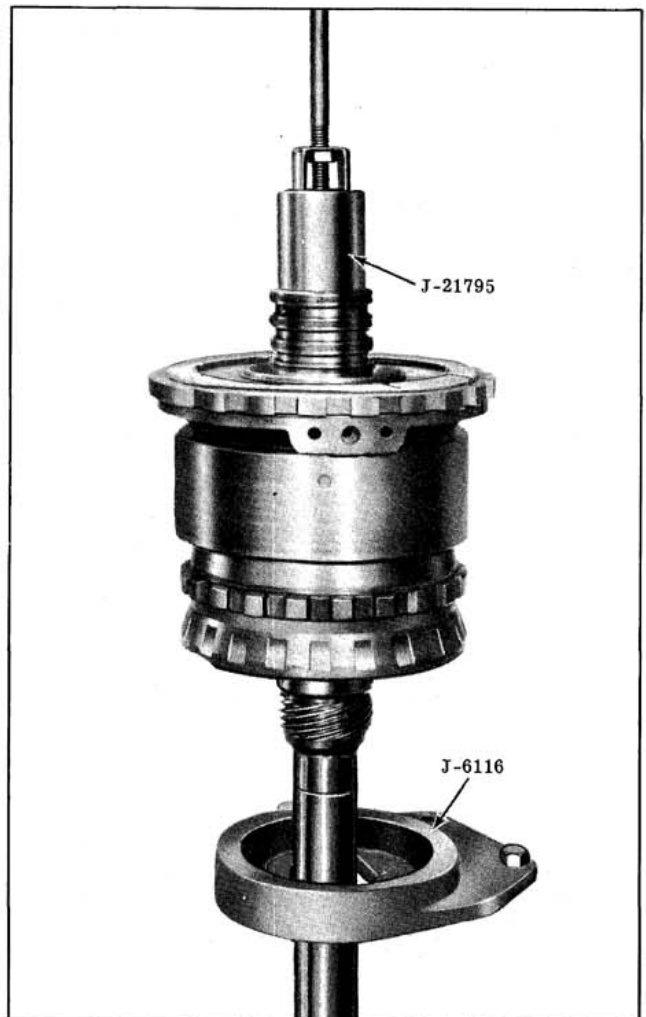

Fig. 6-76 Positioning Unit in Holding Fixture
17. Place the gear unit assembly with output shaft facing down in hole in work bench or Holding Fixture J-6116. (Fig. 6-76)